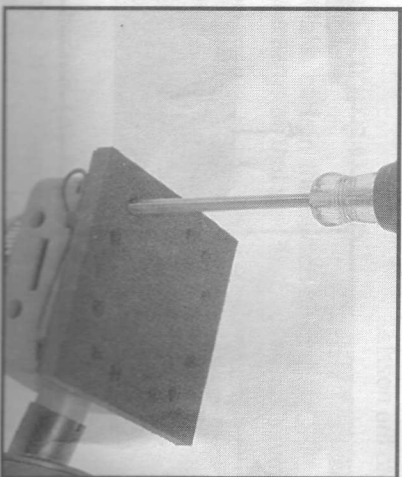

Fig. 13
2. Use a T20 Torx screwdriver to remove the four pad retaining screws (see Fig. 13), and lift the foam pad (and its aluminum backing plate), off the sander.